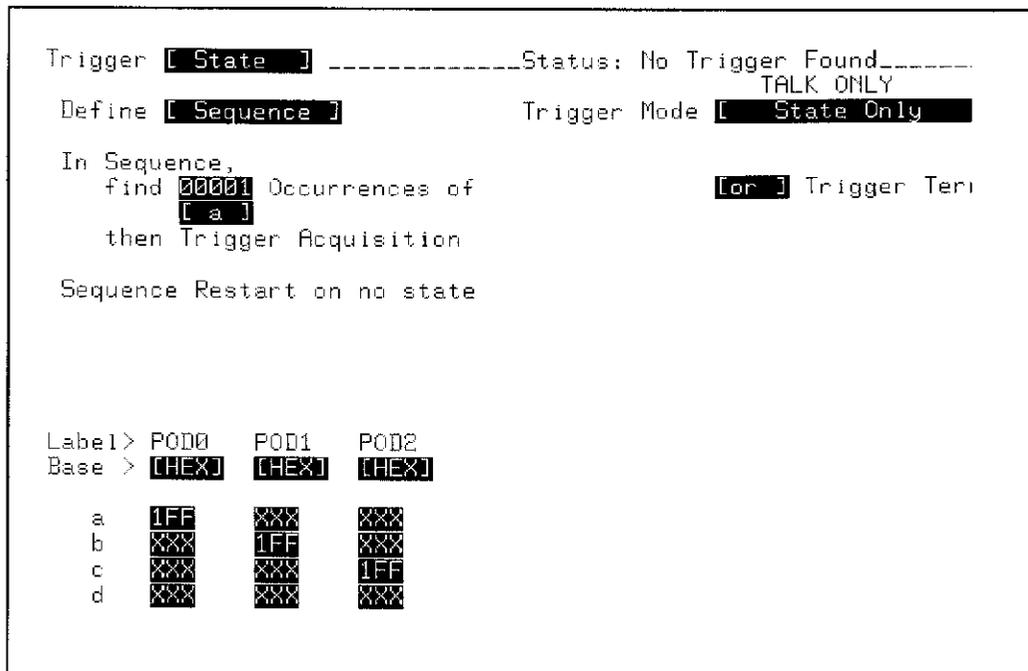

Figure 3-26. TRIGGER State / Define [Sequence] Menu
5. Configure the TRIGGER State / Define [Sequence] menu as shown in figure 3-26.
19. Reconfigure the TRIGGER State/Define [Sequence] menu in figure 3-26 with "Occurrences of [b]".
22. Reconfigure the STATE Sequence menu in figure 3-26 with "Occurrences of [c]".